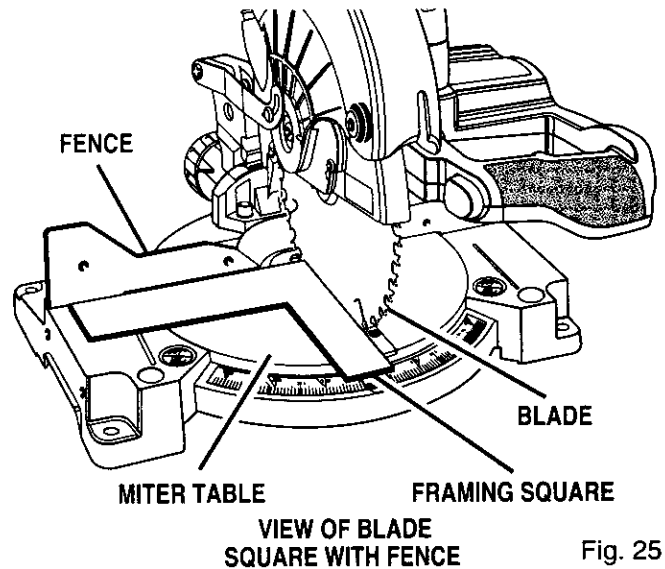

Fig. 25
- The edge of the square and the saw blade should be parallel as shown in figure 25.
See Figures 25 – 28.